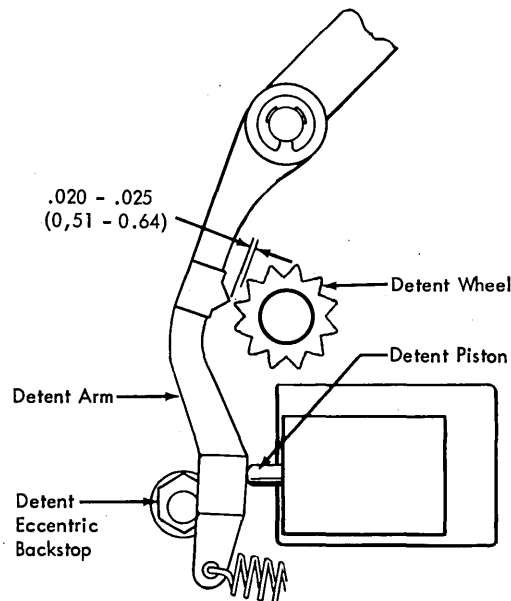

Figure 4-61. Detent Adjustment
5. Adjust the detent backstop for a clearance of .020 to .025 in. (0, 51 to 0, 64 mm) between the detent arm and the detent wheel when the arm is held against the backstop (Figure 4-61).